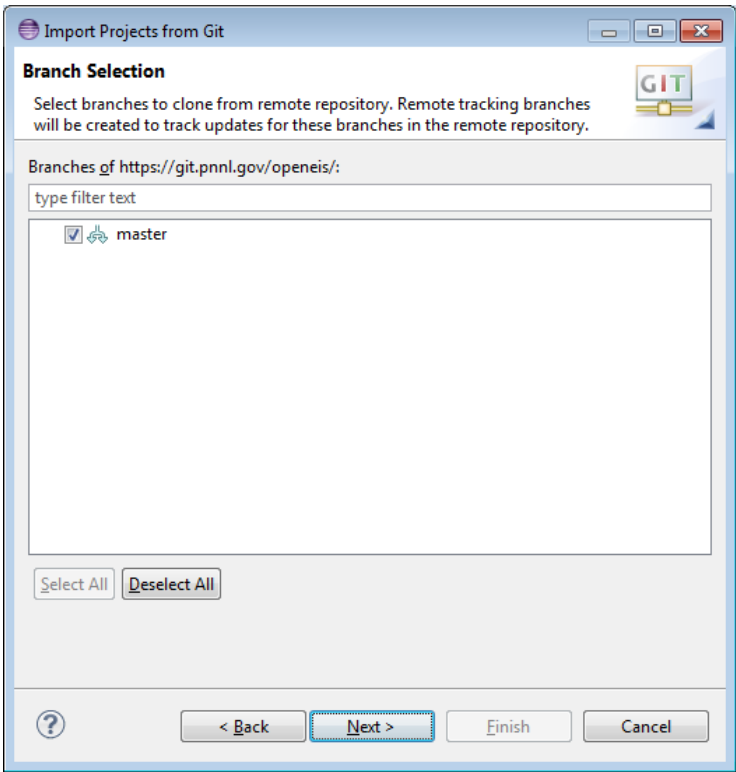

Figure 40: Checking Out Transactional Network with Eclipse (continued)
- Select the master branch (Figure 40)